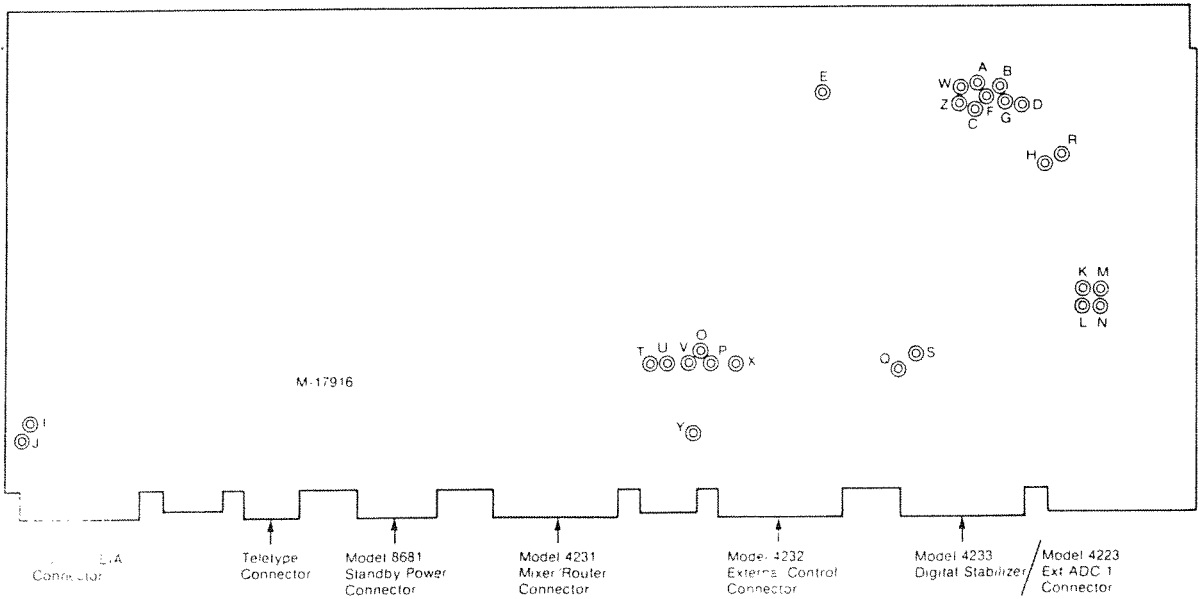

Figure B-3
5. Plug the plastic connector into the Mixer/Router edge connector on the Mother Board (see Figure B-3) with the blue stripe on the cable to the right.
5. Plug the plastic connector onto the External Control edge connector on the Mother Board (see Figure B-3) with the blue stripe on the cable to the right.